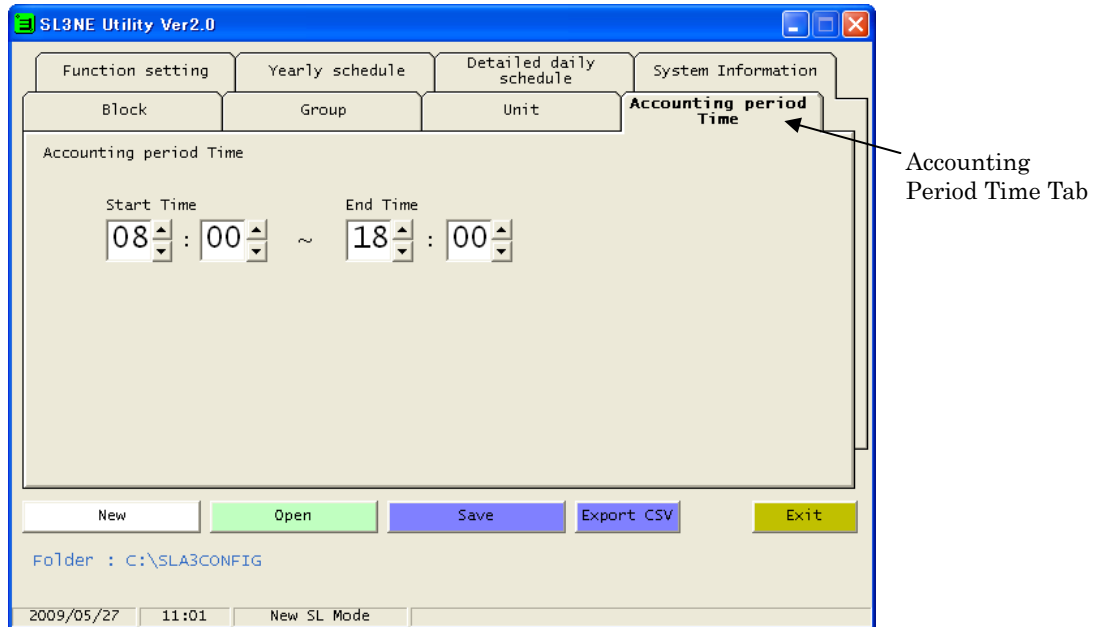

Fig.10 Accounting Period Time screen
- Click on the "Accounting Period Time" tab, the Accounting Period Time screen shown in Fig.10 will appear.